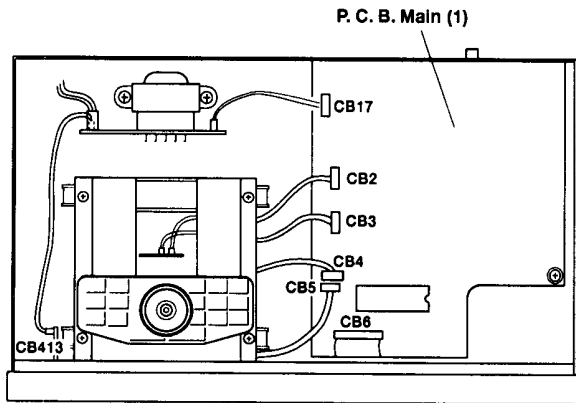

Fig. 2
- a. Remove 2 connectors in Fig. 2.
- a. Remove 4 connectors in Fig. 2.